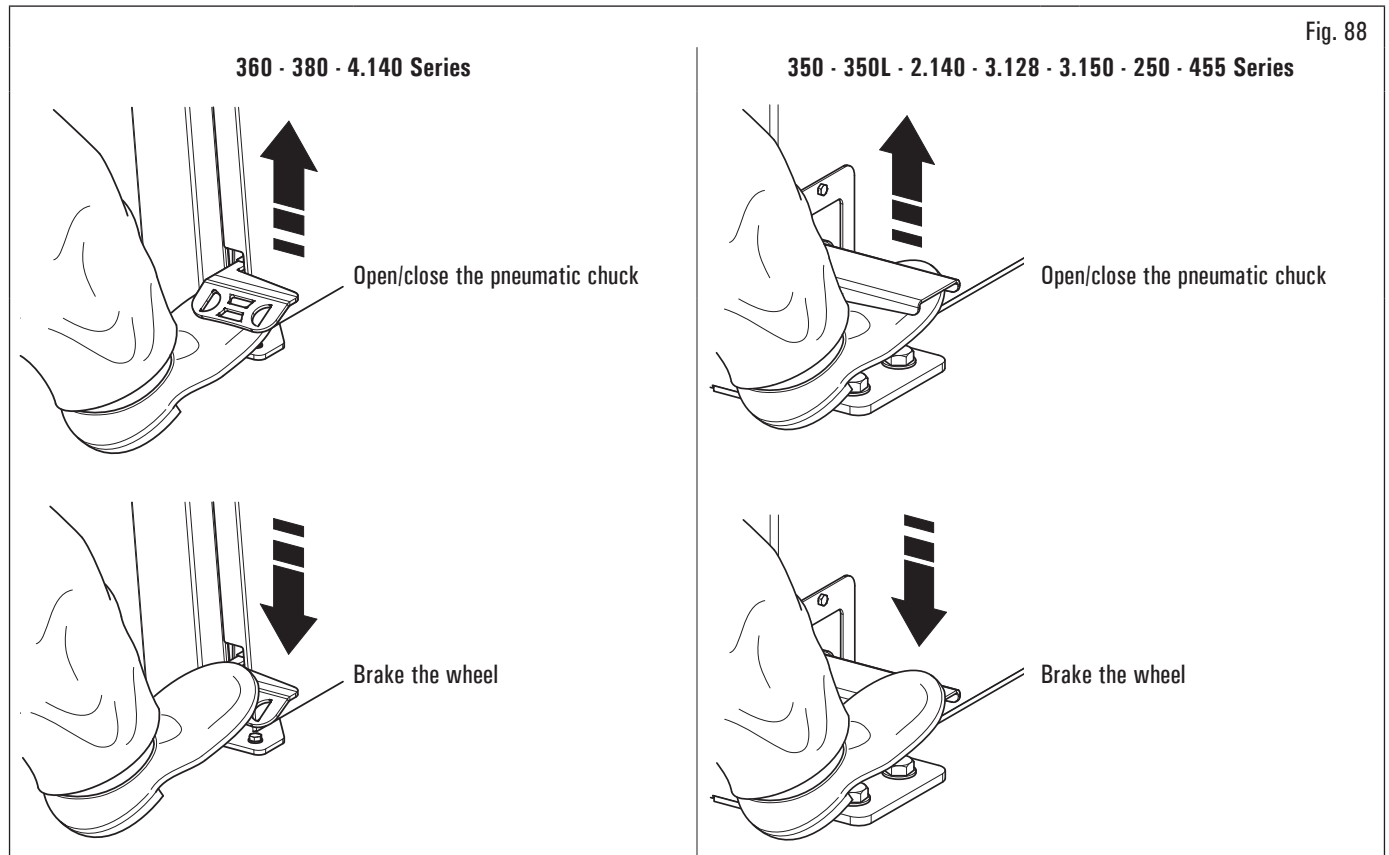

Fig. 88
1. If the pneumatic chuck is closed, open it by lifting the specific pedal, see Fig. 88;